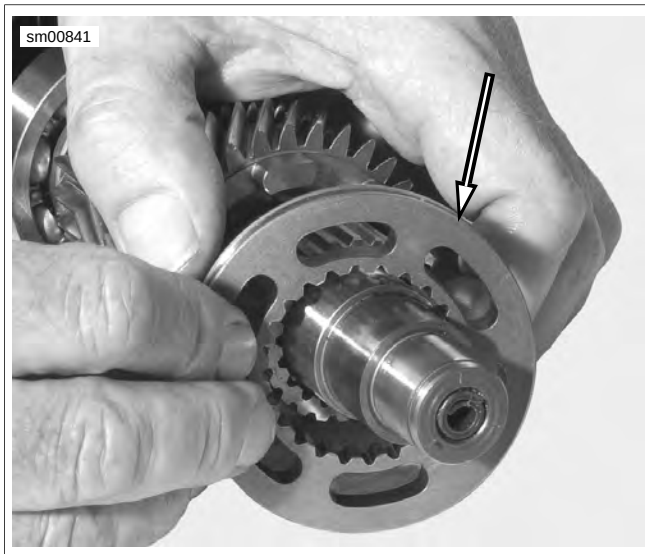

Figure 6-140. Shifting Fork Ring
6. See Figure 6-140. Remove shifting fork ring.